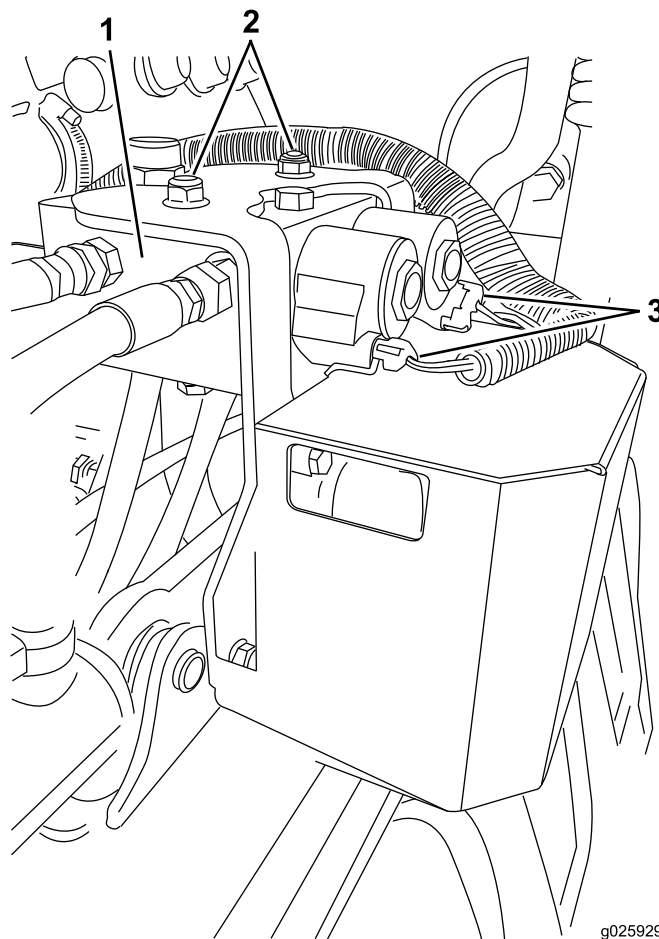

Figure 17
4. Route the wiring harness to the hydraulic manifold (Figure 17).